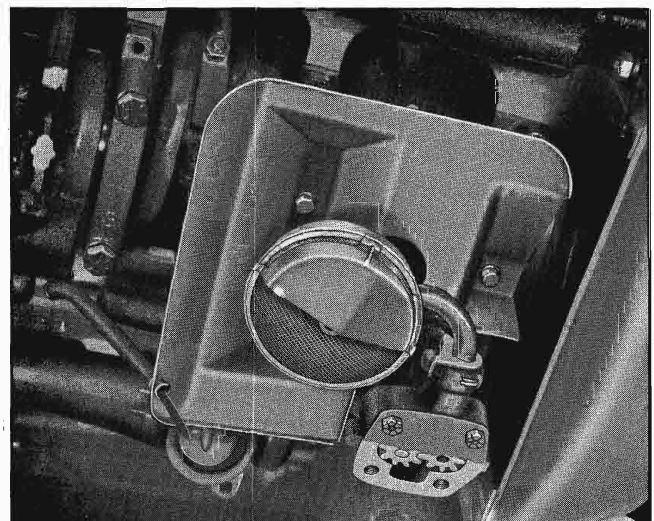

Fig. 6-59 Oil Pump Floating Screen Assembly
1. Remove cotter pin which retains floating screen to oil pump inlet, and remove screen (Fig. 6-59).